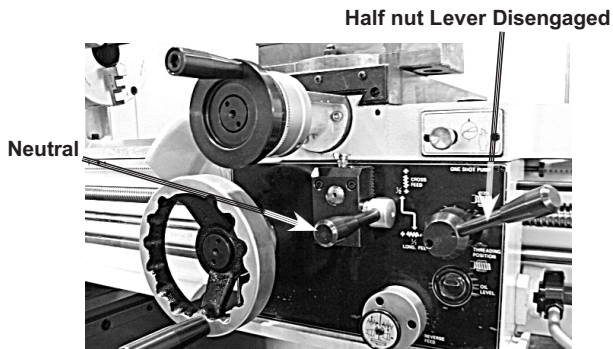

Figure 24. Power feed and half nut levers disengaged.
5. Disengage the half nut and the power feed levers shown in Figure 24.